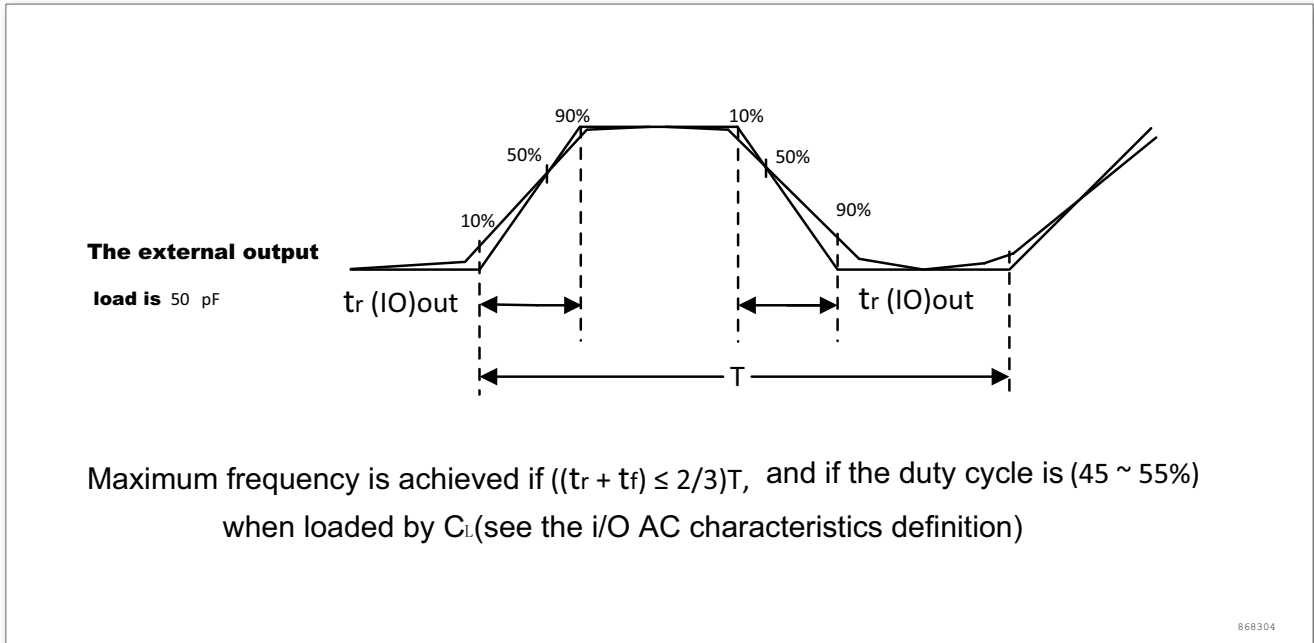

Figure 17. I/O AC characteristics
The definitions and values of the input and output AC characteristics are given in figure 17 and Table 34, respectively.
2. The maximum frequency is defined in figure 17.